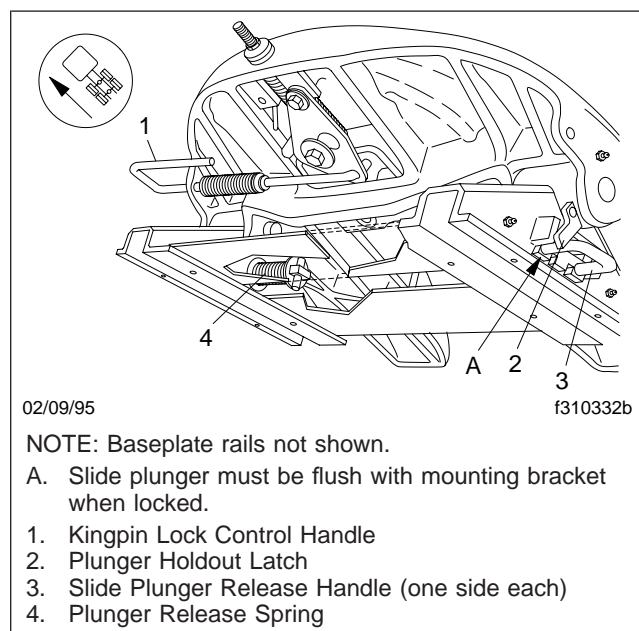
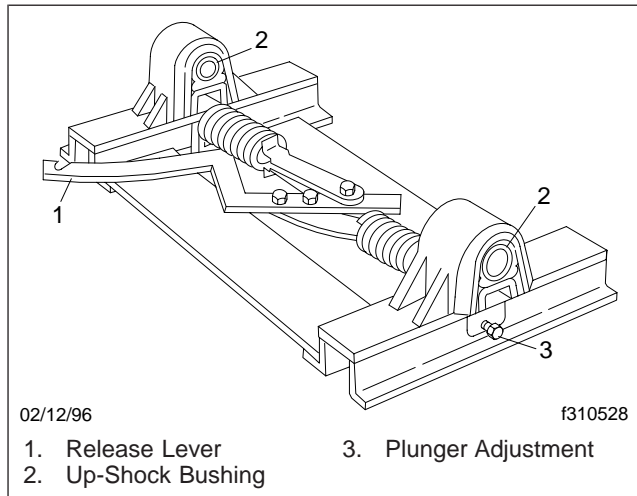
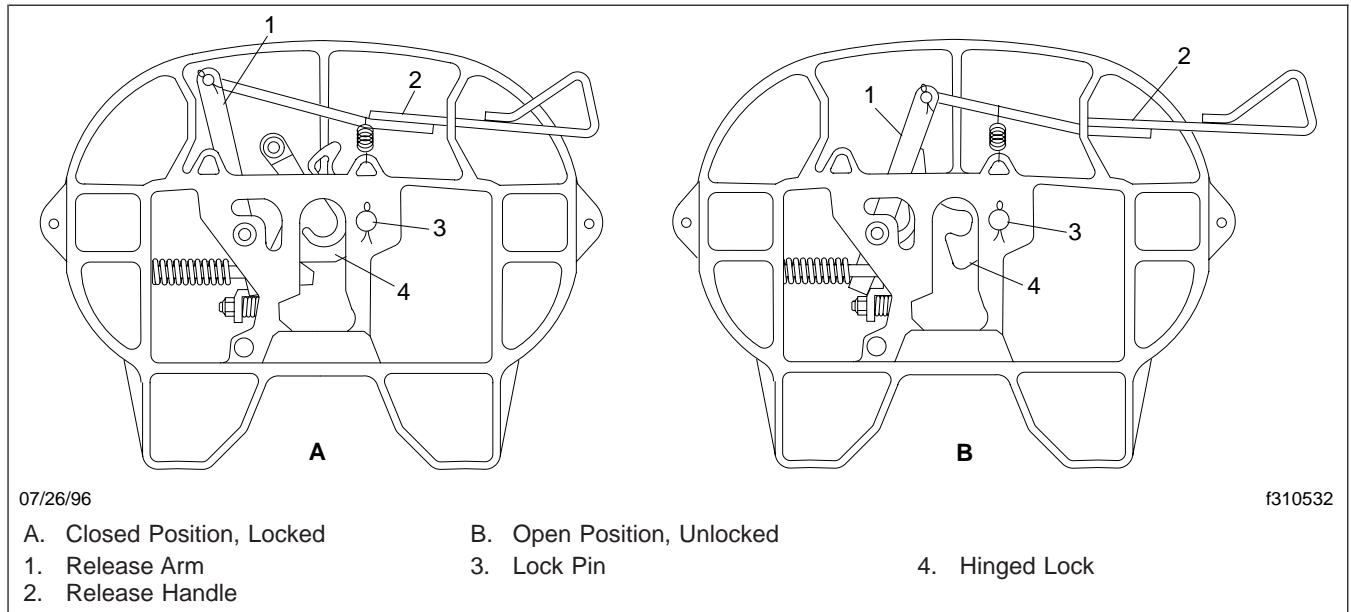
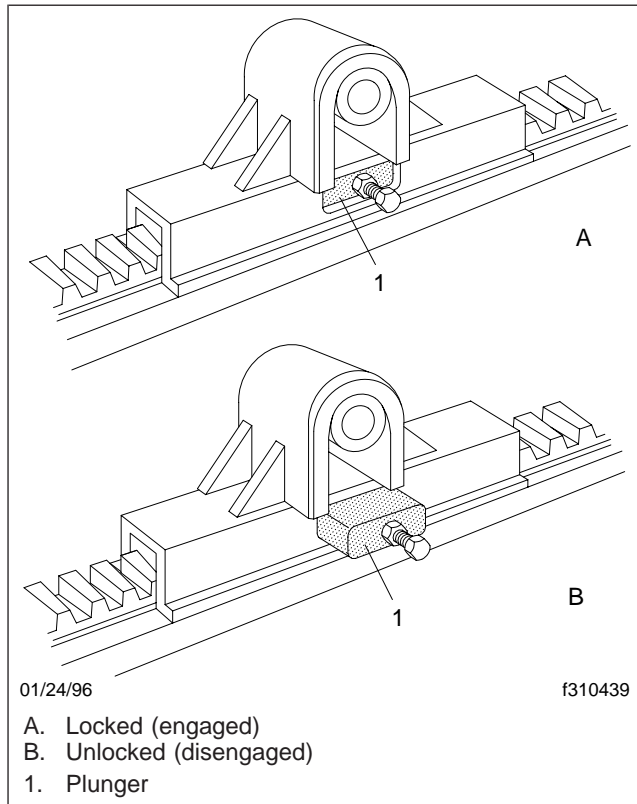

Fig. 10.3, Double Manual Release Slide
Fig. 10.4, Single Manual Release Slide
Fig. 10.7, Type "A" Kingpin Lock Mechanism
Fig. 10.9, Plunger Positions
The double manual release slide assembly (Fig. 10.3) contains two slide plunger release handles, one on each side of the bracket assembly. Both handles must be manually operated to lock and unlock each side of the sliding member.
The single manual release slide assembly (Fig. 10.4) has a single lever which locks and unlocks both
Type "A" Kingpin Lock Mechanism (Fig. 10.7)
- 2.2 For double manual release slide models, pull both plunger release handles (Fig. 10.3) outward, from each side of the mounting brackets, to the unlocked position. Position the plunger holdout latch in the groove of the plunger. See Fig. 10.9.
For single lever release slide models, use the release hook to pull the lever to the unlocked position (Fig. 10.7). Lift the release lever to the secure position behind the catch. Visually check the slide plungers to make sure they have released as shown in Fig. 10.9.
- 8.2 For double manual release models, lift the plunger holdout latch on each side of the mounting brackets. Then, move the release plunger on each side of the mounting brackets (Fig. 10.3) into the locked position. Make sure that the slide plungers are engaged in the fully locked position. See Fig. 10.9.
- 8.3 For single manual release models, trip the release lever (Fig. 10.4) to allow the slide plungers to retract to the locked position. Visually check the slide plungers to make sure they are in the locked position as shown in Fig. 10.9.